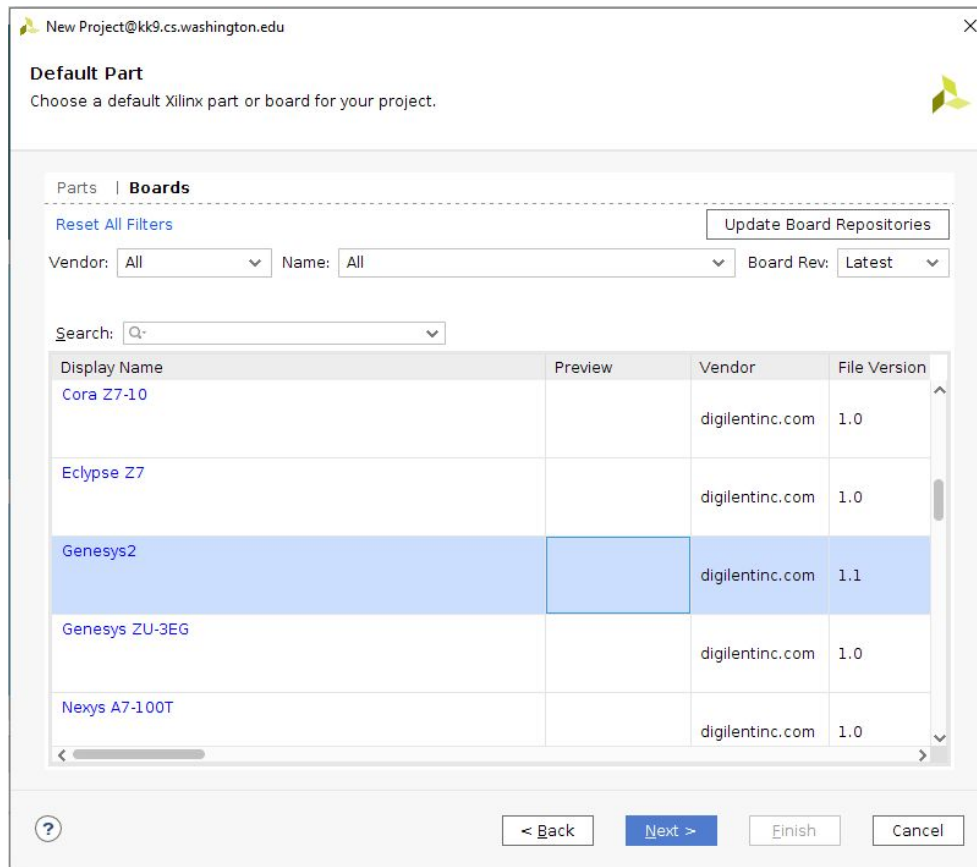

Fig. 1 Selecting Parts/Boards when creating a project
- 2) While selecting the default part of your project, you may select **Boards** and select **Genesys2** (Fig. 1) if you're working with Genesys2 boards. Hit **Next** and **Finish**.